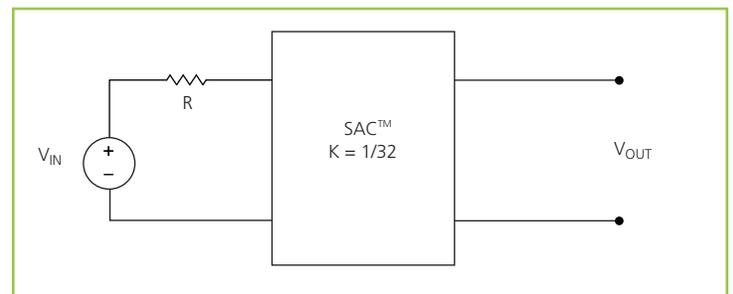

Figure 15 – K = 1/32 Sine Amplitude Converter with series input resistor
interesting attributes. Assuming that ROUT = 0 Ω and IQ = 0 A, Eq. (3) now becomes Eq. (1) and is essentially load independent, resistor R is now placed in series with VIN as shown in Figure 15.
Assuming that  $R = 1 \Omega$ , the effective R as seen from the secondary side is  $0.98 m\Omega$ , with  $K = 1/32$  as shown in Figure 15.